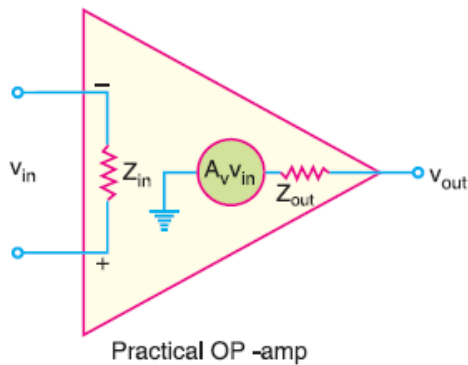

Fig. 3
**(i) Practical Op–Amp.** Fig. 3 shows the AC equivalent circuit of a practical Op-Amp (IC 741). The characteristics of a practical Op-Amp are very high voltage gain, very high input impedance and very low output impedance. The input voltage  $v_{in}$  appears between the two input terminals and the output voltage is  $A_{OL}v_{in}$  taken through the output impedance  $Z_{out}$ .